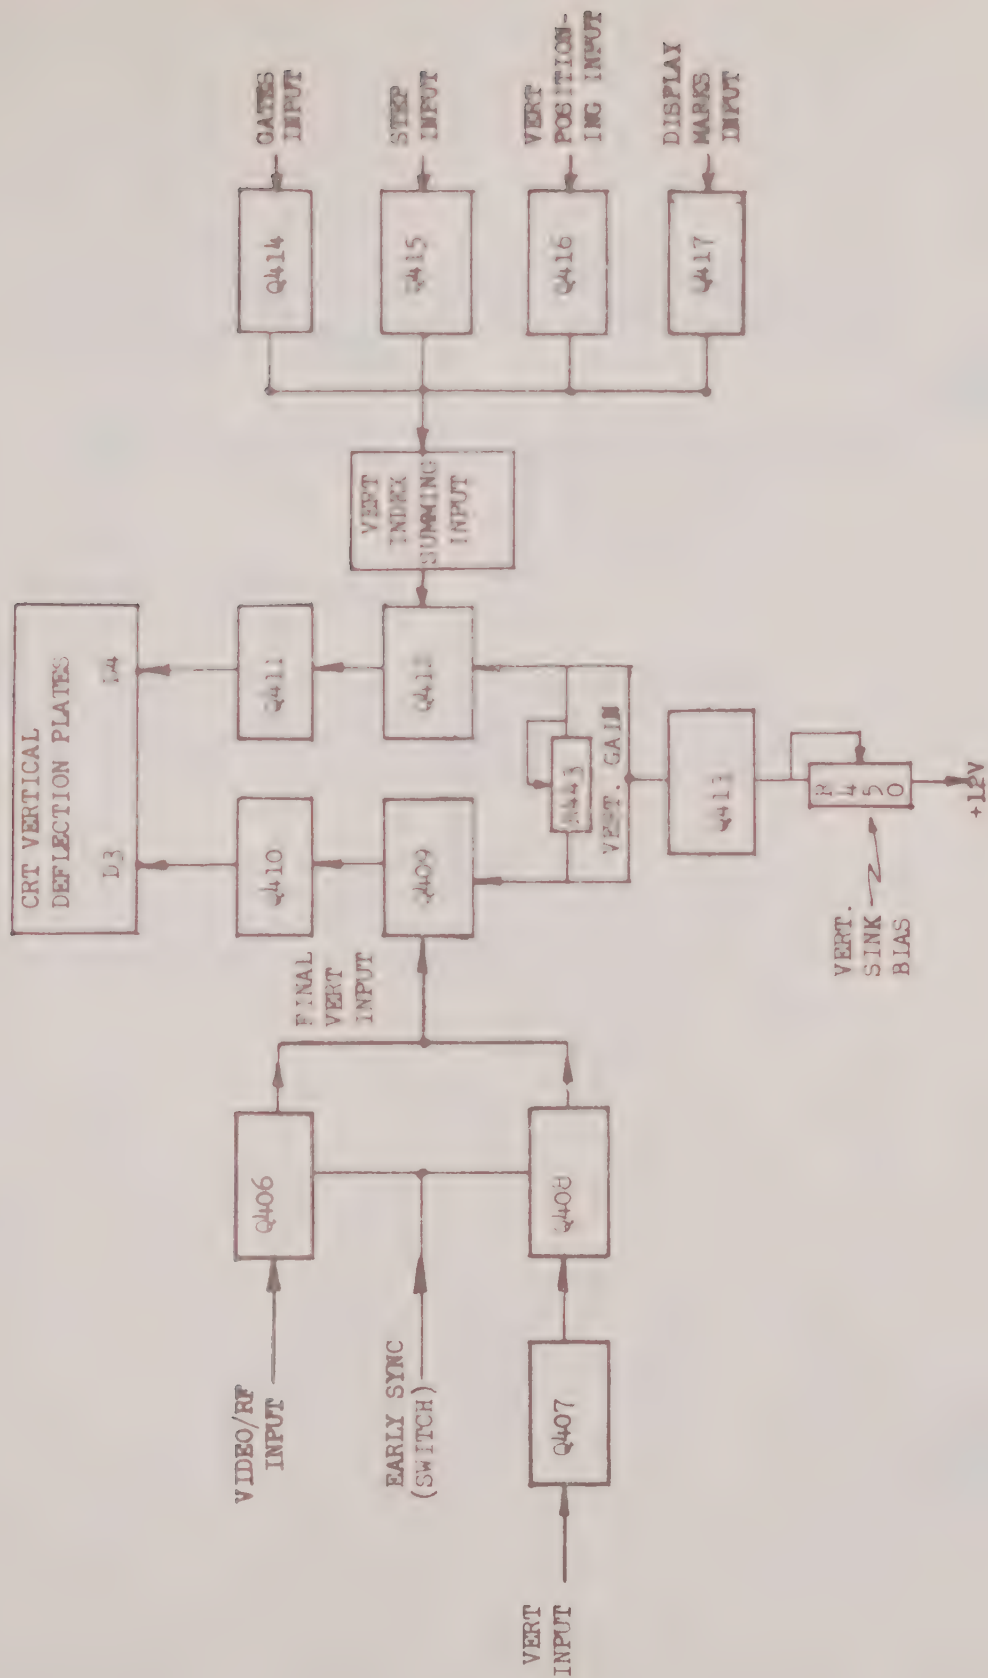

Figure 4-7 Block Diagram of the Vertical Amplifier Circuit
4.3.3.1 VERTICAL DEFLECTION AMPLIFIER. (See Reference Schematic 50E618 and Figure 4-7).